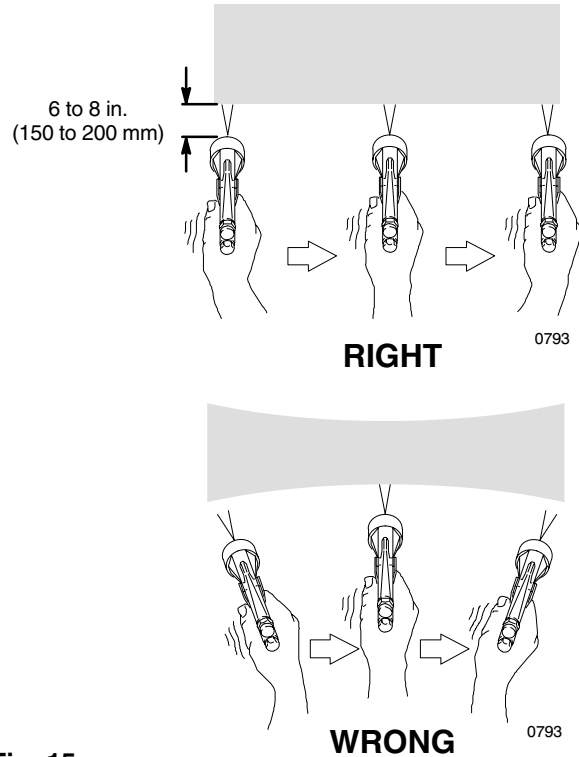

Fig. 15
- Keep gun perpendicular to surface and maintain consistent distance of approximately 6 to 8 inches (150 to 200 mm) from object being sprayed. See Fig. 15.